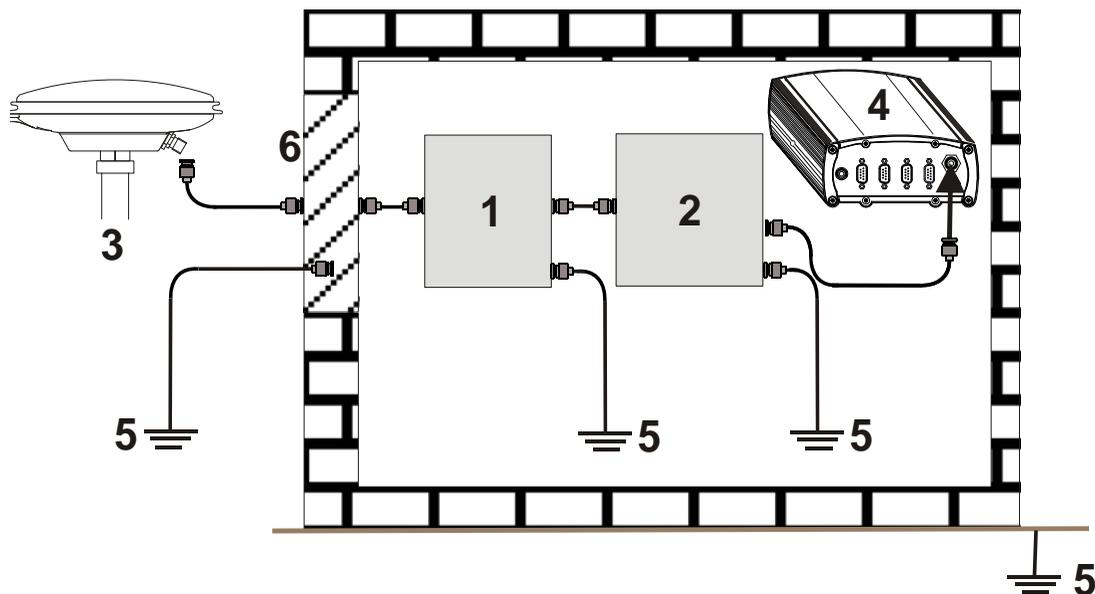

Figure 3: Primary and Secondary Lightning Protection
6. The primary and secondary lightning protections should be as close to the building's entrance as possible. Where feasible they should be mounted onto the grounding plate itself. See also *Figure 3, Primary and Secondary Lightning Protection* on the following page.